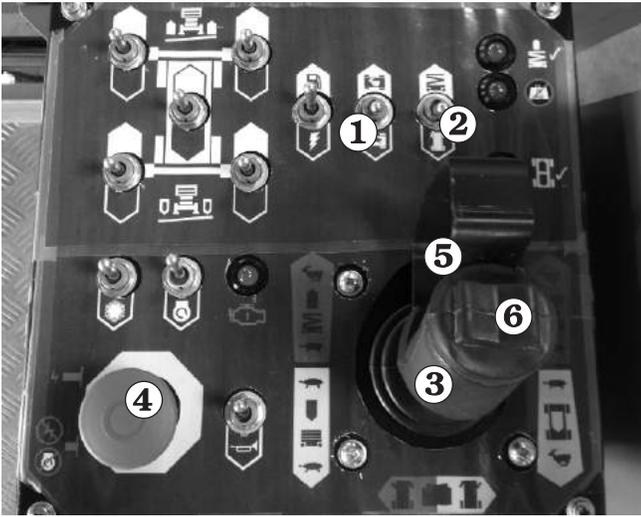

Figure 8.9
2. Set the **Speed** switch ① to turtle (slow) (see Figure 8.9) if you are going to be driving close to other objects or need to move the S3970RT / S3370RT / S2770RT very slowly for other reasons.
3. Set the **Lift/Drive Selector** switch ② to drive (see Figure 8.9).
4. Squeeze and hold the **Safety Control** ⑤ against the **Joystick Controller** ③ (see Figure 8.9).
6. To make a right or left turn, press and hold the **Steering** rocker-switch ⑥ on top of the **Joystick Controller** ③ (see Figure 8.9).